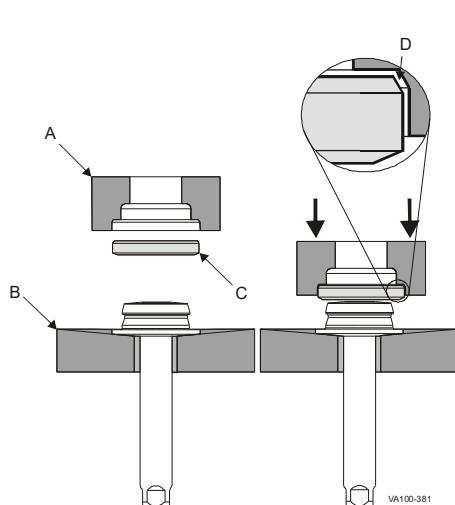

Figure 29: Tef-Flow™ P Seat
2. To install a new seat, place the installation tool base onto a table or bench with a 1.0" (25 mm) hole (Figure 29, item B). For tool part numbers, see "Installation Tools" on page 84.
4. Place a new seat ring (item C) onto the stem with the seat angle (item D) and flat side facing away from the base as shown in Figure 29.
5. Place the seat ring tool (Figure 29, item A) over the seat ring. For tool part numbers, see "Installation Tools" on page 84.